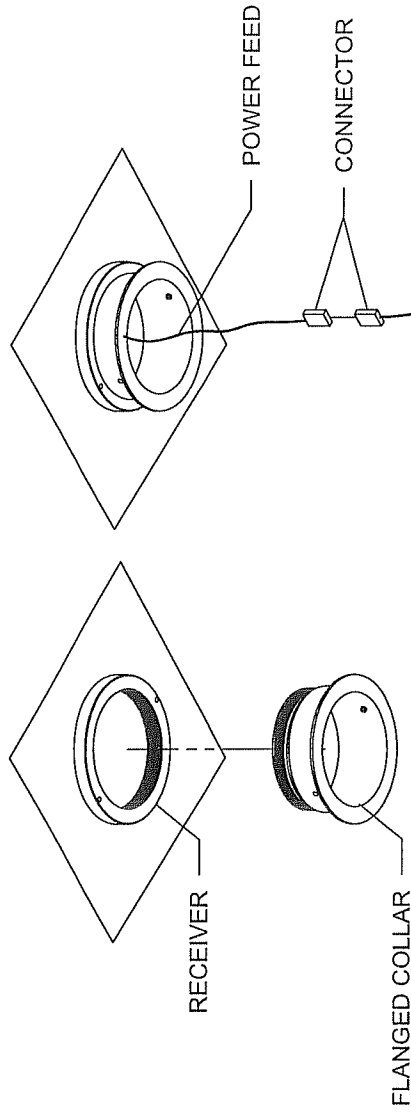

FIG 1
1. Thread flanged collar into threaded receiver until flange on collar is firmly seated against the ceiling. (FIG 1)